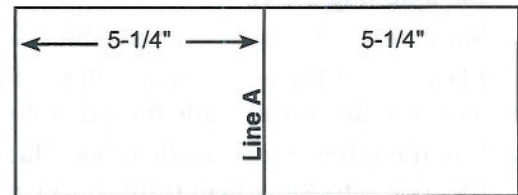

Figure 1
1. Using a No. 2 pencil, draw **Line A** down the center of a balsa wood sheet (Figure 1).